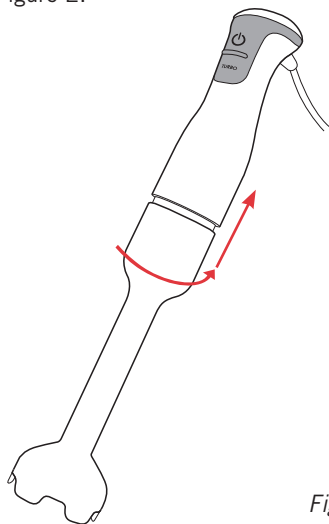

Figure 2
5. To detach the wand, twist the shaft in an anti clockwise position until the wand unscrews from the motor housing. See Figure 2.